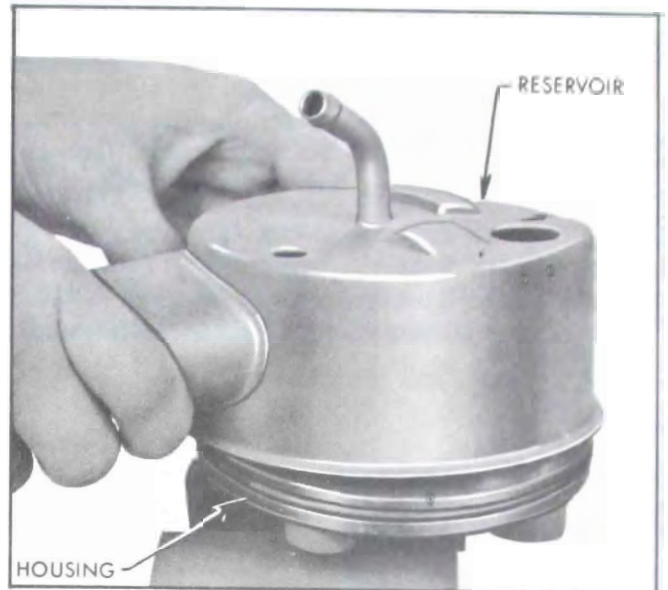

Figure 8-70—Removing Reservoir from Housing
7. Remove reservoir from housing by rotating reservoir and at the same time lifting upward. See Figure 8-70.